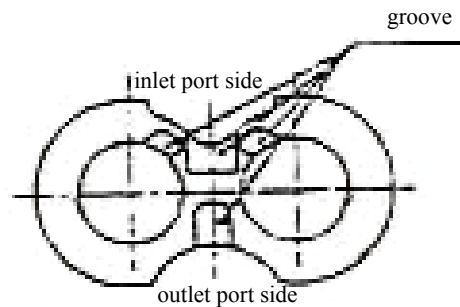

Figure 2-33
(E) Fit a new seal ring and a new retainer ring at back cover groove. see figure 2-33.